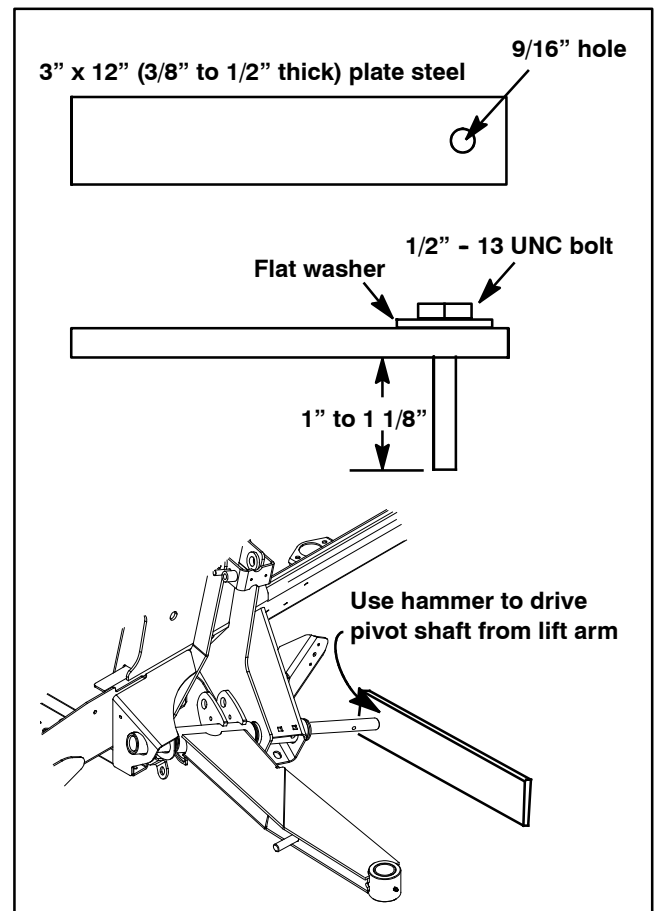

Figure 8
4. Remove lift cylinder pin (item 28) that secures lift cylinder to lift arm.
5. Drive out slotted roll pin (item 11) that retains lift arm pivot shaft. Discard roll pin.
6. Support lift arm and pull lift arm pivot shaft from lift arm and frame. Locate and remove thrust washers (item 10) during pivot shaft removal. Note location of thrust washers for assembly purposes.
- A. If pivot shaft is difficult to remove, fabricate a puller as shown in Figure 8.